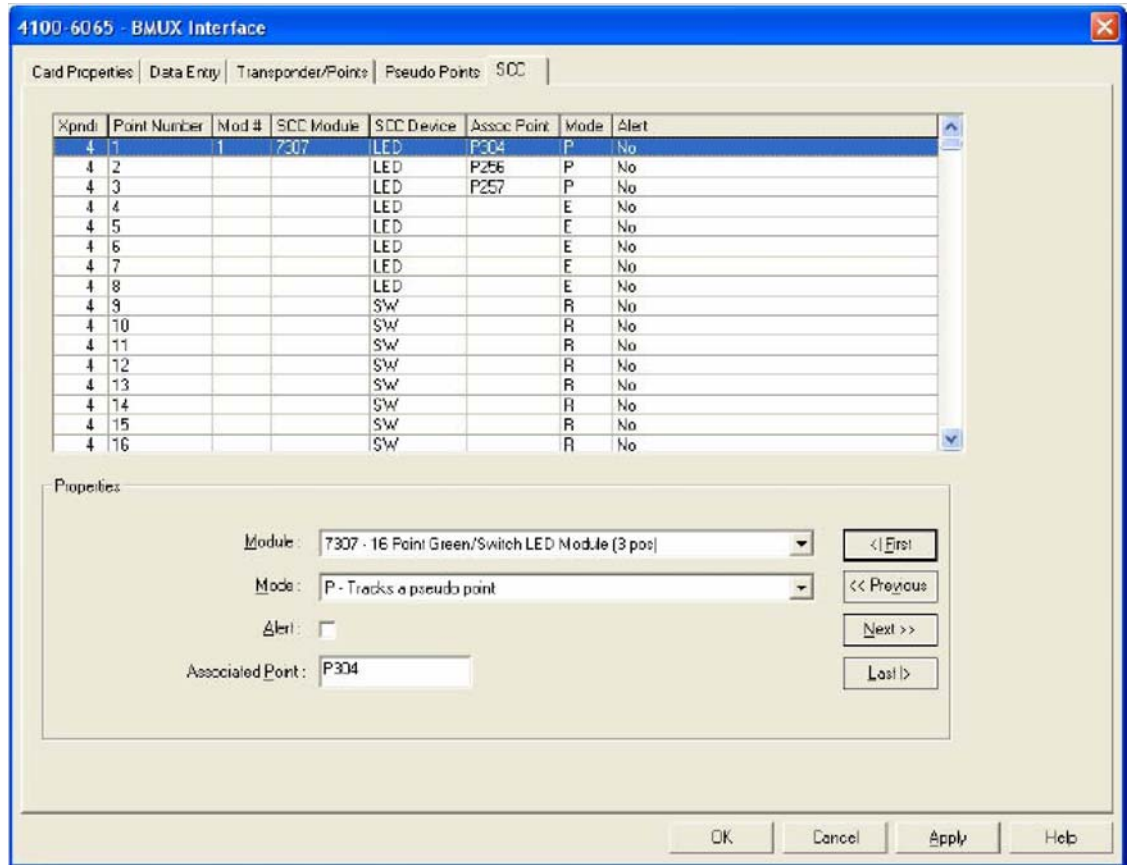

Figure 6-43. SCC Editing Tab
2. Click on the SCC tab on the 4100 6065 BMUX Interface. A dialog box appears as shown in Figure 6-43.